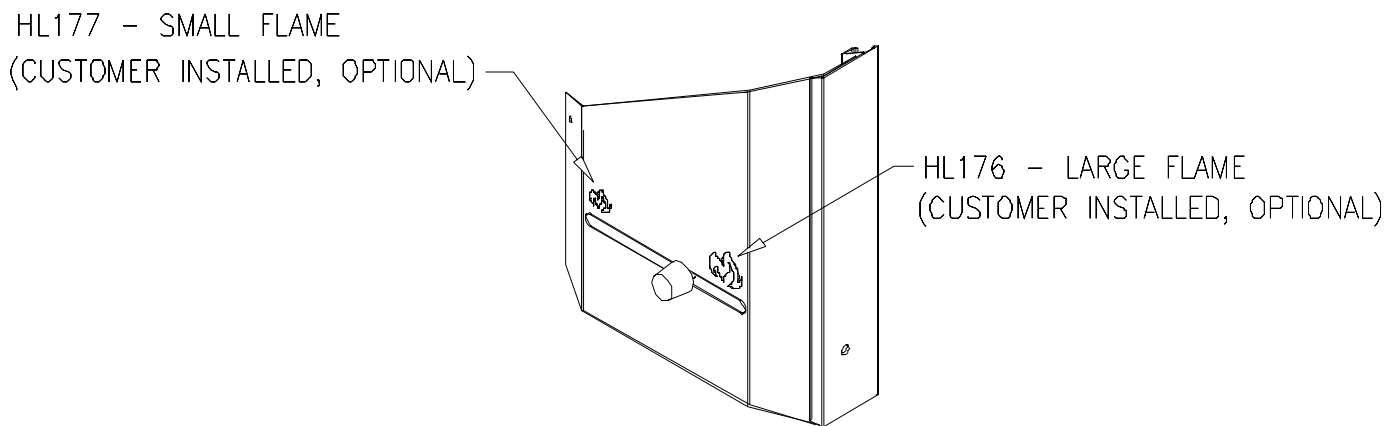

Figure 3.1
4. Open the draft control fully to the right (located on the right side of the faceplate, Figure 3.1)